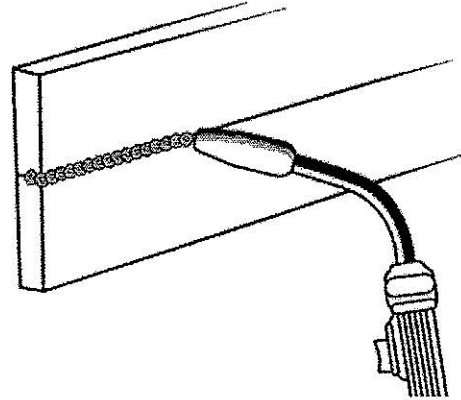

Figure 15. Horizontal Position
2. The **HORIZONTAL POSITION** (Figure 15) is next in difficulty level. It is performed very much the same as the flat weld except that angle B (see **HOLDING THE GUN** - p.19) is such that the wire, and therefore the arc force, is directed more toward the metal above the weld joint. This is to help prevent the weld puddle from running downward while still allowing slow enough travel speed to achieve good penetration. A good starting point for angle B is about 30 degrees **DOWN** from being perpendicular to the work piece.